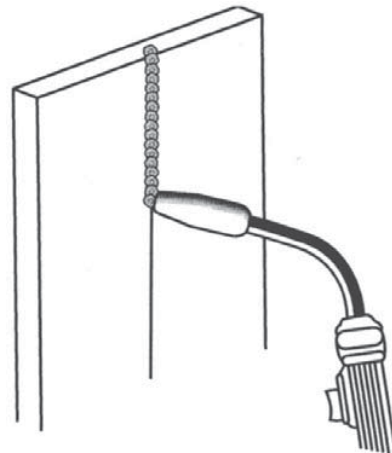

Figure 16. Vertical Position
3. The **VERTICAL POSITION** (Figure 16) is the next most difficult position. Pulling the gun from top to bottom may be easier for many people, but in some instances it can be difficult to prevent the puddle from running downward. Pushing the gun from bottom to top may provide better puddle control and allow slower rates of travel speed to achieve deeper penetration. When vertical welding, angle B (see **HOLDING THE GUN** - p.19) is usually always kept at zero, but angle A will generally range from 45 to 60 degrees to provide better puddle control.